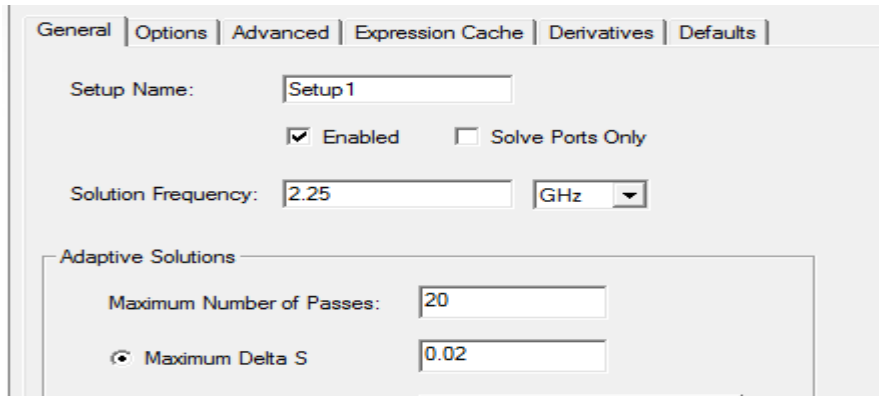

Figure 1. Add Solution Setup dialog box
- 2 On the **General** tab edit the fields as shown in Figure 1 and click **OK**.